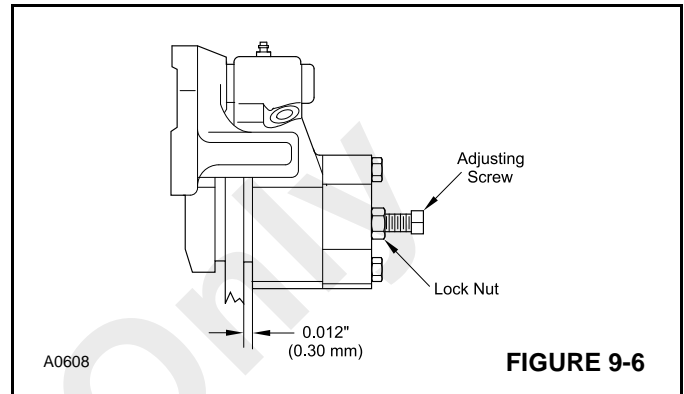

FIGURE 9-6
2. Loosen the lock nut and adjusting screw (Figure 9-6).